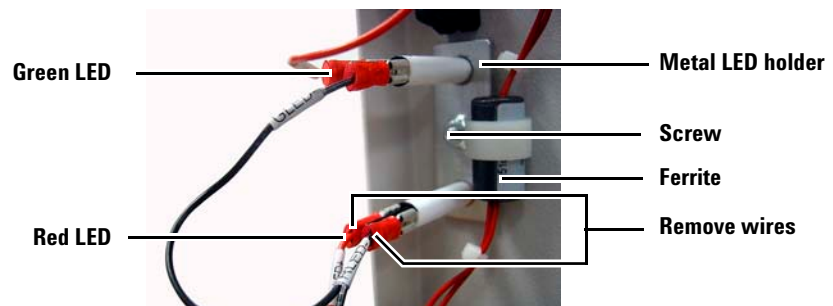

Figure 14 LED connectors
- 2 Remove the + and – wires (marked **GLED+/-** or **RLED+/-**) from the faulty LED (Figure 14).